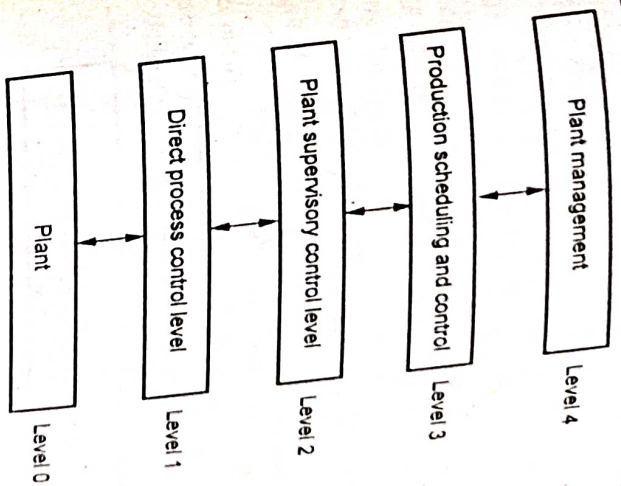

Fig. Q.19.1 Process plant automation system hierarchy
• Fig. Q.19.1 shows process automation system hierarchy.
• As shown in the Fig. Q.19.1 various levels of automation can be explained as below :